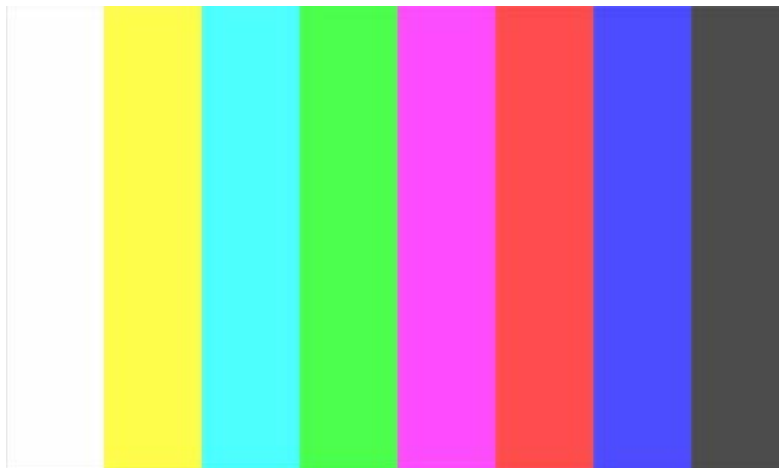

figure 2: brightness / black value too high
- The right field is gray instead of black – brightness adjusted too high. Warning: With this test pattern it is not possible to find out if the brightness is adjusted too low. If you dind't know whether the brightness is adjusted optimal, please use an another test pattern like „faces“ (fig. 2)